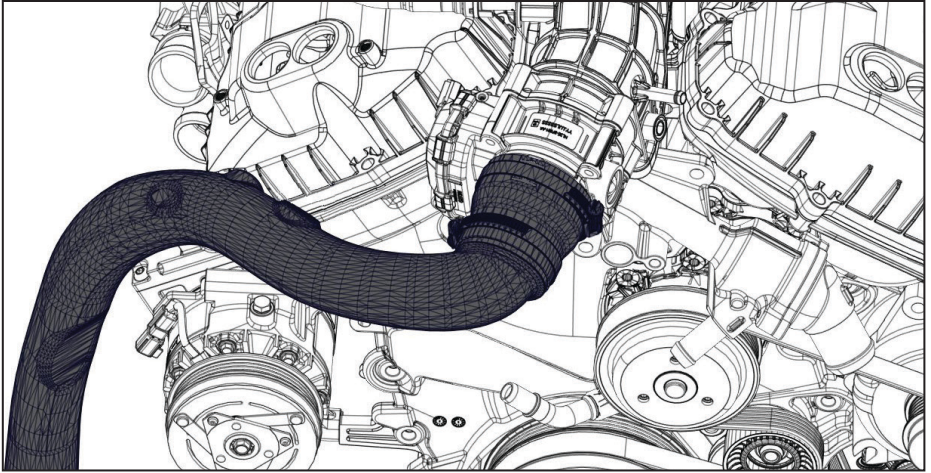

Figure 6 — Remove intake tube
- Ecoboost engine only:** Remove the intake tube and Charge Air Cooler (CAC) ducting underneath the engine (Figure 6).